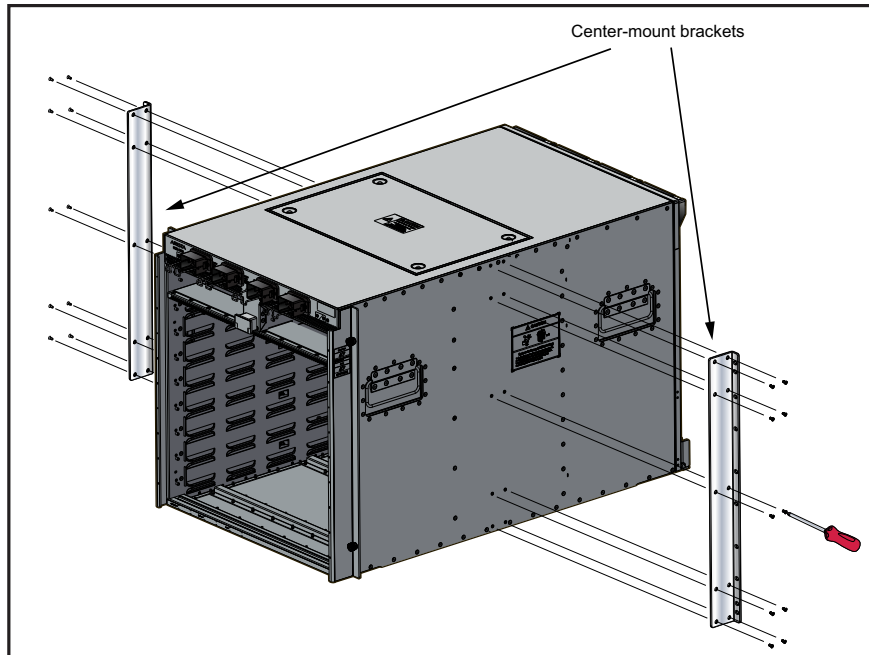

Figure 3-1: Attaching the Center-mount Brackets
Step 1 Orient the switch chassis and the two center-mount brackets (Figure 3-1 on page 10).